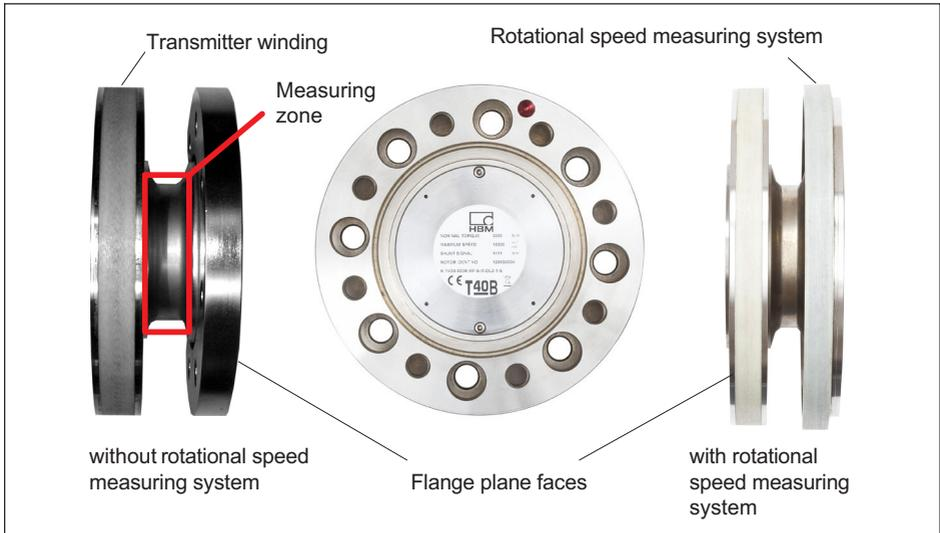

Fig. 5.1 Bolted rotor connection
Make sure during installation that you do not damage the measuring zone marked in Fig. 5.1 by using it to support tools, or knocking tools against it when tightening screws, for example. This can damage the transducer and produce measurement errors, or even destroy the transducer.
2. For the bolted rotor connection (see Fig. 5.1), use six or eight DIN EN ISO 4762 hexagon socket screws of the property class stated in Tab. 5.1, in a suitable length (dependent on the connection geometry, see Tab. 5.1 on page 22).